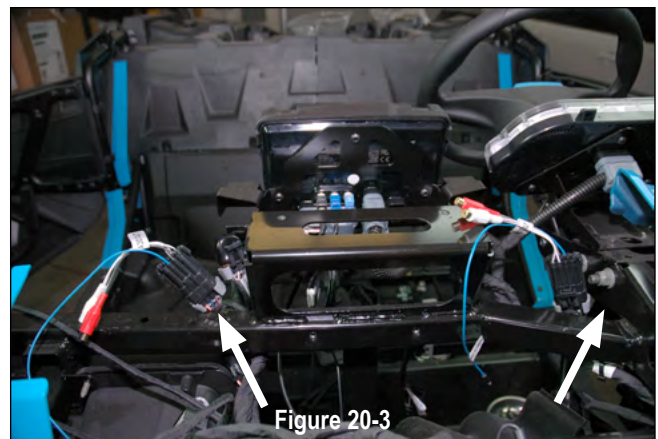

Figure 20-3
Connect the Ride Command adapter to AMP1 plug as shown in figure 20-3. Both adapters included in the kit are identical. Simply choose and connect one.
- If you have NO Dynamix ECU or OEM installed amplifier, use the (2) T40 screws provided in the MB Quart RZR Stage 5 kit as shown in Figure 20-2. In the next step these screws will attach the dual amplifier plate in the two identified holes as shown in Figure 20-3.